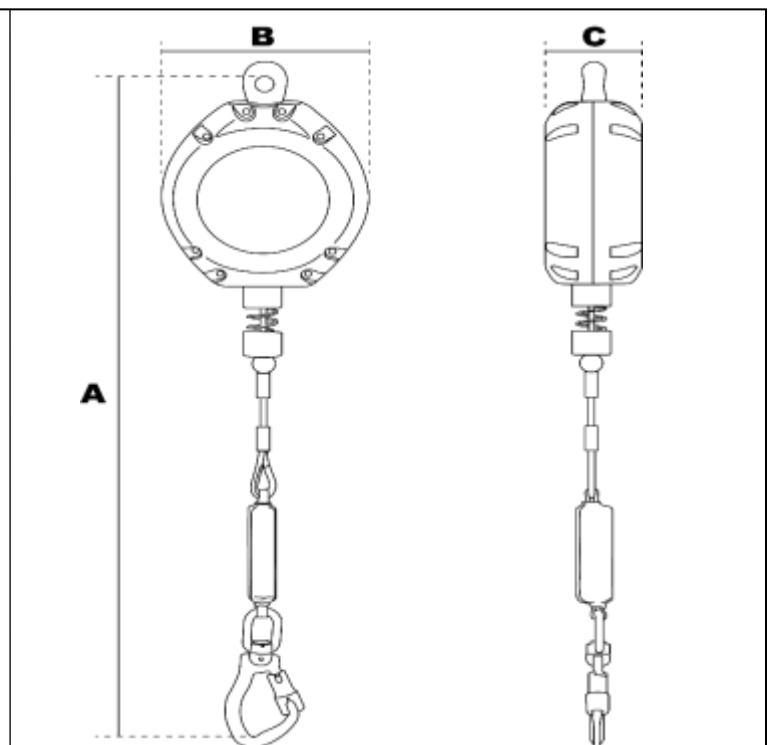

Figure 2.2: Ritz Safety Leading Edge self-retracting lanyard
- **SELF RETRACTING LANYARDS WITH LEADING EDGE:** Are suitable for applications where the lifeline remains generally horizontal during use, and free fall is limited to 1.8 m (6 ft). Leading Edge refers to unprotected and potentially sharp edges of roofs, doors, decking, etc. These units have an integrally attached shock absorber (G), which minimizes fall arrest forces on the user and withstands impact loading of the lifeline over sharp or abrasive edges during a fall event. Refer to Figure 2.2 below.